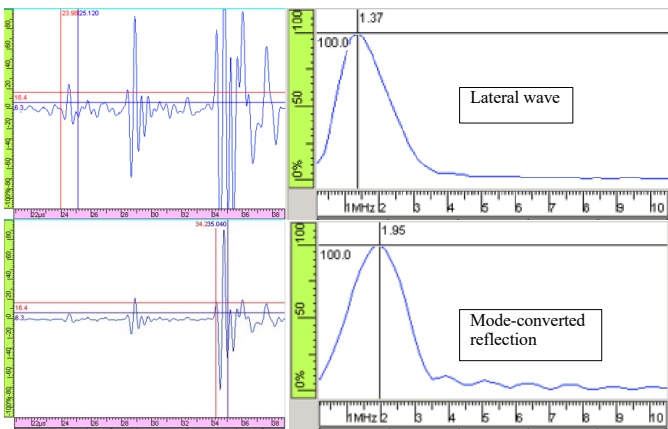

Figure 7. Frequency analysis of 2.25MHz probe in setup from Figure 6
2.25MHz is already slightly downshifted, as polymers tend to preferentially allow lower frequencies to pass. When the signals are analysed in the frequency domain it is apparent that even at 2.25MHz there is a downshift in frequency content of the lateral wave relative to the nominal frequency. Figure 7 indicates the lateral wave having a centre frequency of 1.37MHz and when compared to the mode-converted signal which has less offset from the beam centreline, the downshift is very slight at 1.95MHz. (Note; amplitude of the mode-converted signal was decreased so as to avoid signal saturation).